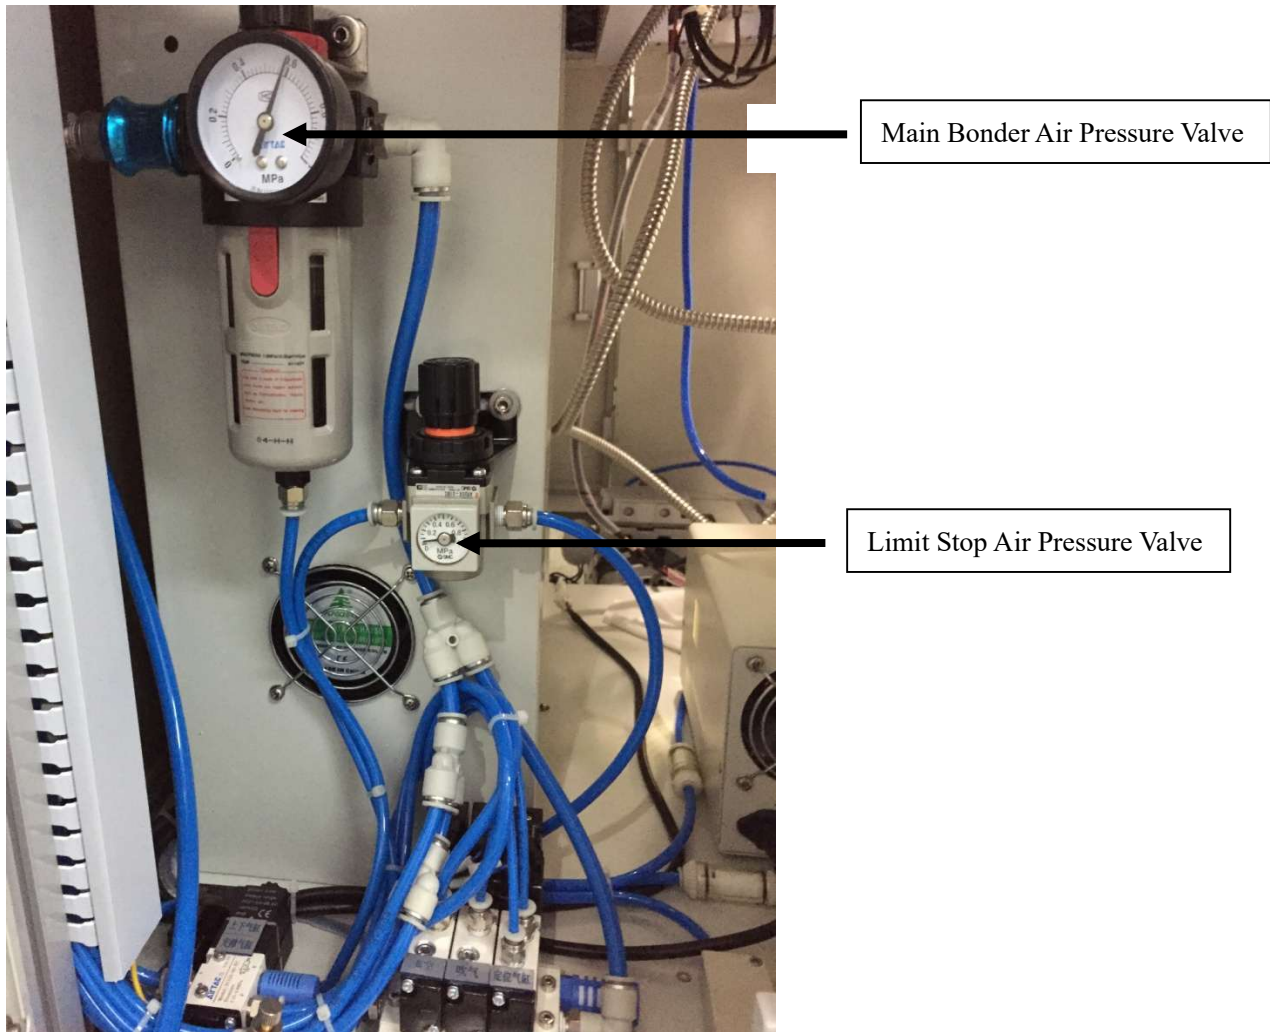

Figure 2.0
4.1. There are two air pressure valves inside the left hand side door of the bonder (see Fig. 2.0).